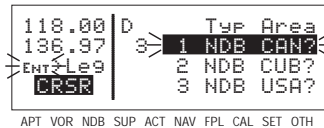

Figure 3-47
- Press **ENT**. The Duplicate Waypoint page will be displayed on the screen (figure 3-47). At the time of this writing, there were three waypoints in the Americas data base having the identifier **D**. If there are more than four waypoints having the same identifier, only the first three are initially shown. The list includes an NDB in Canada, an NDB in Cuba, and an NDB in the U.S. The cursor will be over the first waypoint listed. They are listed with the waypoint closest to the aircraft's present position displayed first and the waypoint furthest from the aircraft displayed last. To view the rest of the choices,